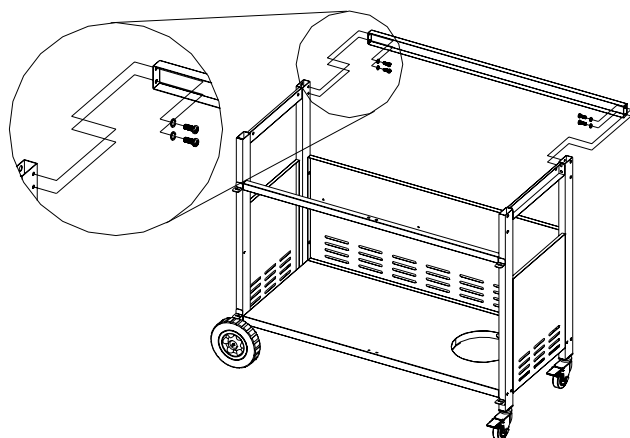

Figure 6
2. Attach the rear cart frame beam to grill cart using (4) $\frac{5}{32}$ x $\frac{2}{5}$ " Phillips head screws and (4) $\frac{5}{32}$ " lock washers. (Fig.6)